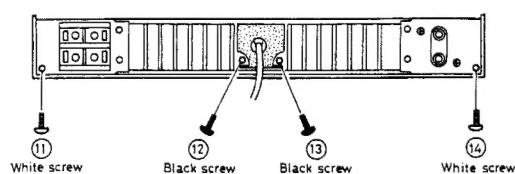

Fig. 3
4. Remove 4 setscrews (⑪~⑭ in Fig. 3) which secure chassis and heat sink.